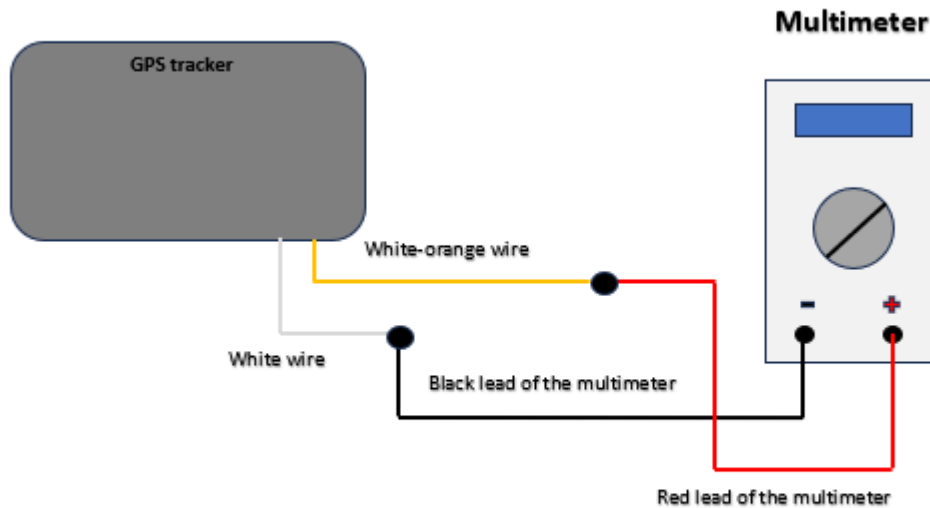

Fig. 4 Connection Diagram
2. Assemble the connection circuit according to "Fig. 4 Connection Diagram."